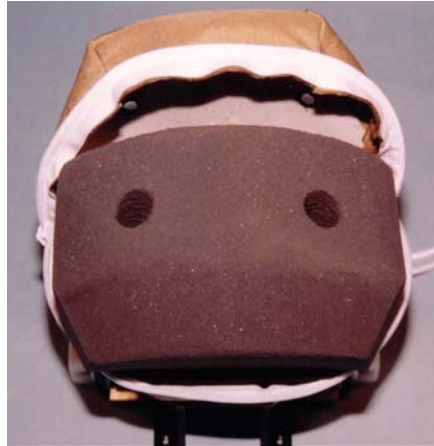

Figure 17.14- Front Abdominal Foam Layer properly positioned
15. Examine the Front Abdominal Foam Layer (T1LAM012), position the flat face against the exposed surface of the rear foam layer, as shown in **Figure 17.14**. Again, pass the DGSP assembly cables through the large bored holes in the front foam layer.